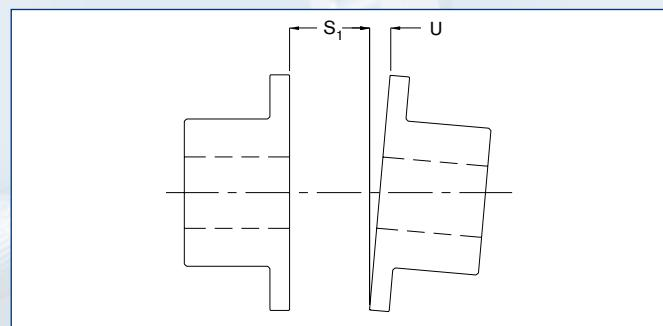

Fig. 5
- Dimension (U) as shown in Figure 5 should be measured in at least three points, equally spaced, to determine maximum value for (U). This must not exceed the max. allowable dimension stated in Table 6.
- Adjust or shim equipment to bring indicator reading within max. allowable angular misalignment (U).